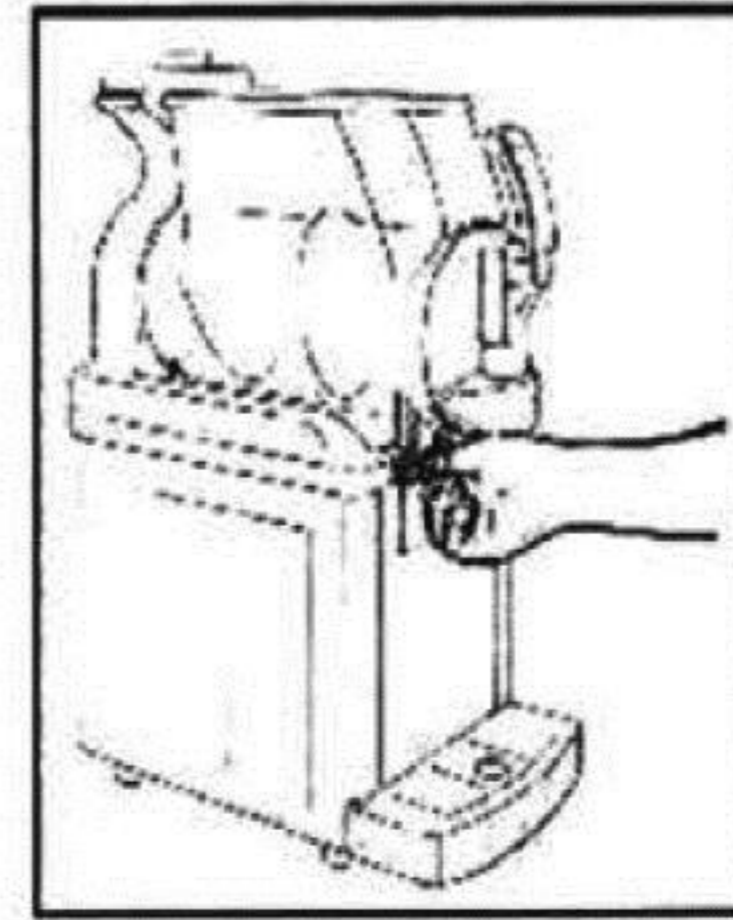

fig.27
- Unscrew the bowl knobs (fig.27).